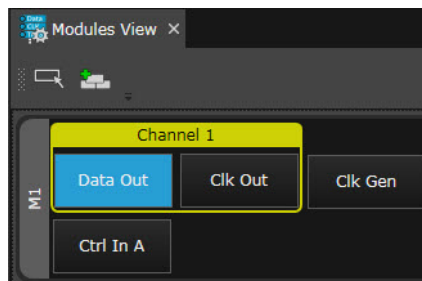

Figure 23 Select Channel 1 DataOut
- 8 Click on **Channel 1** > **Data Out** corresponding to the M8045A (M1) as shown in Figure 23 on page -53.